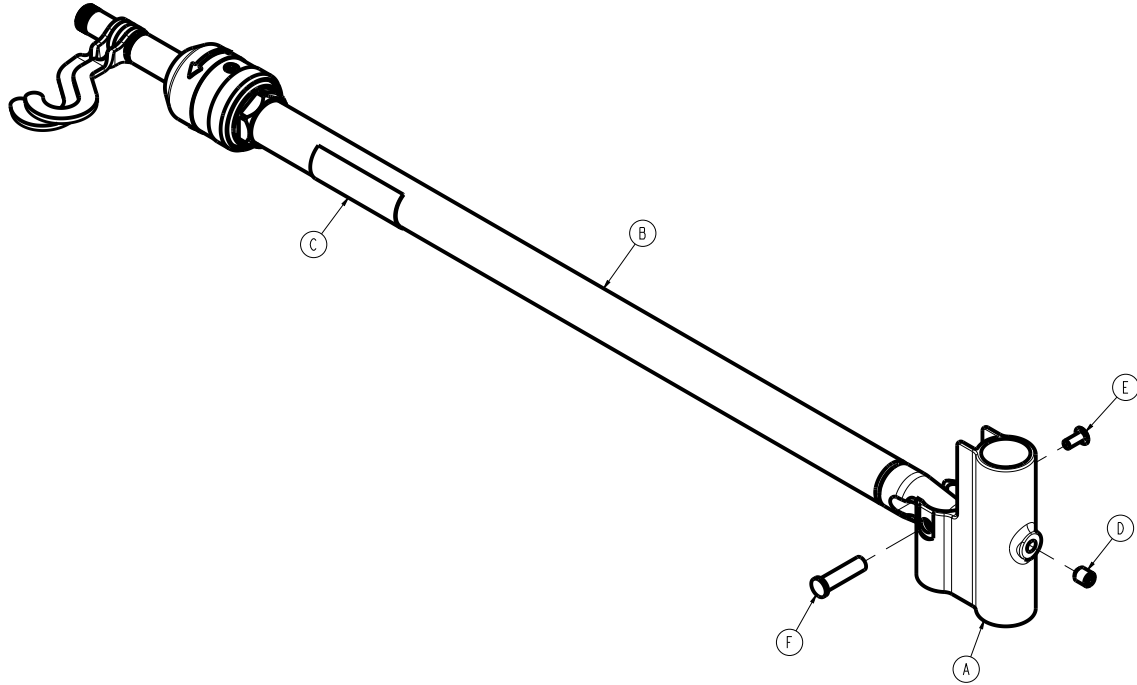

Figure 75 – Attaching the dual IV pole, bottom
7. Using a 5/32" hex wrench, tighten the set screw (D) to secure the bottom IV receptacle (A) to the bed IV post (Figure 75).